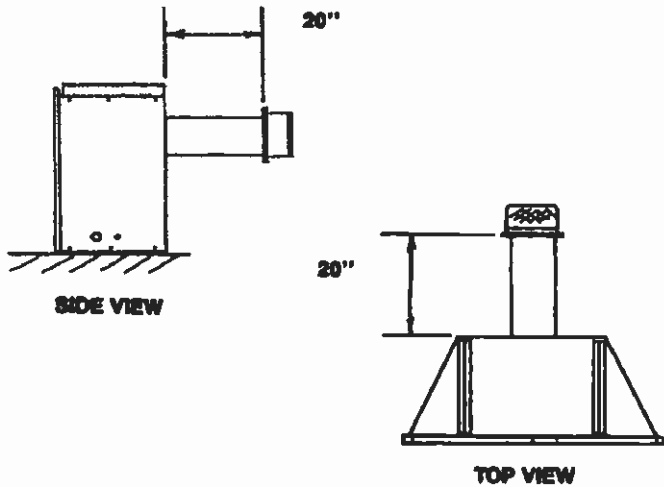

FIGURE 1
- Maximum Vent Length 20" - Fig.1